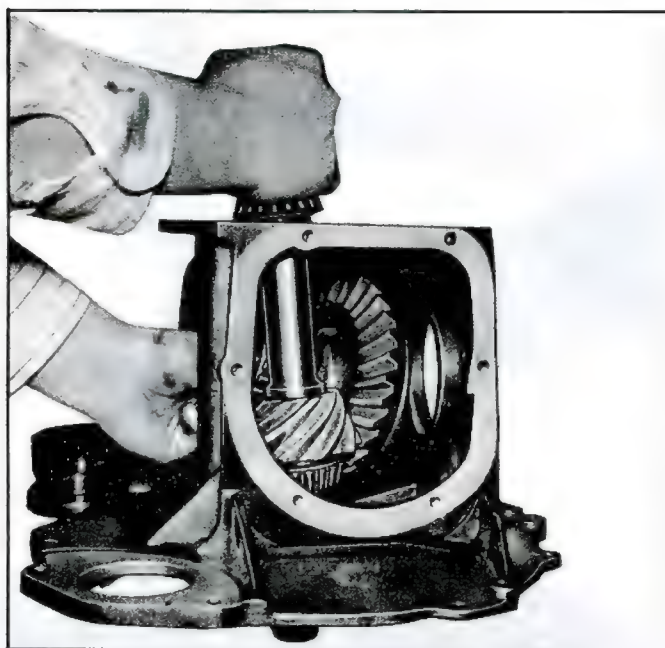

Fig. 45—Installing Pinion in Differential Carrier
3. While differential is loose in the carrier, insert pinion into carrier through the cover hole (fig. 45). Then engage pinion with ring gear and carefully position pinion rear bearing in race. On automatic transmission models, care must be exercised not to damage the seal at this location when the pinion is installed.